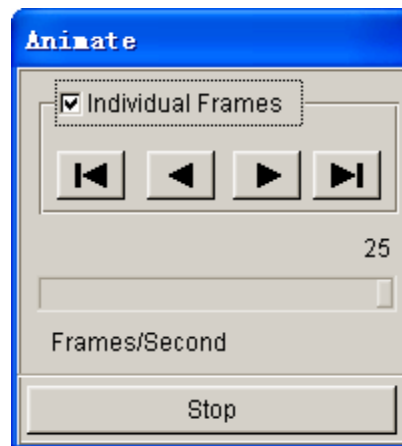

Figure 1.37 Animate dialog box
4. You can select the **INDIVIDUAL FRAMES** option from the ANIMATE dialog box illustrated in Figure 1.37 to display the incremental tool movement.